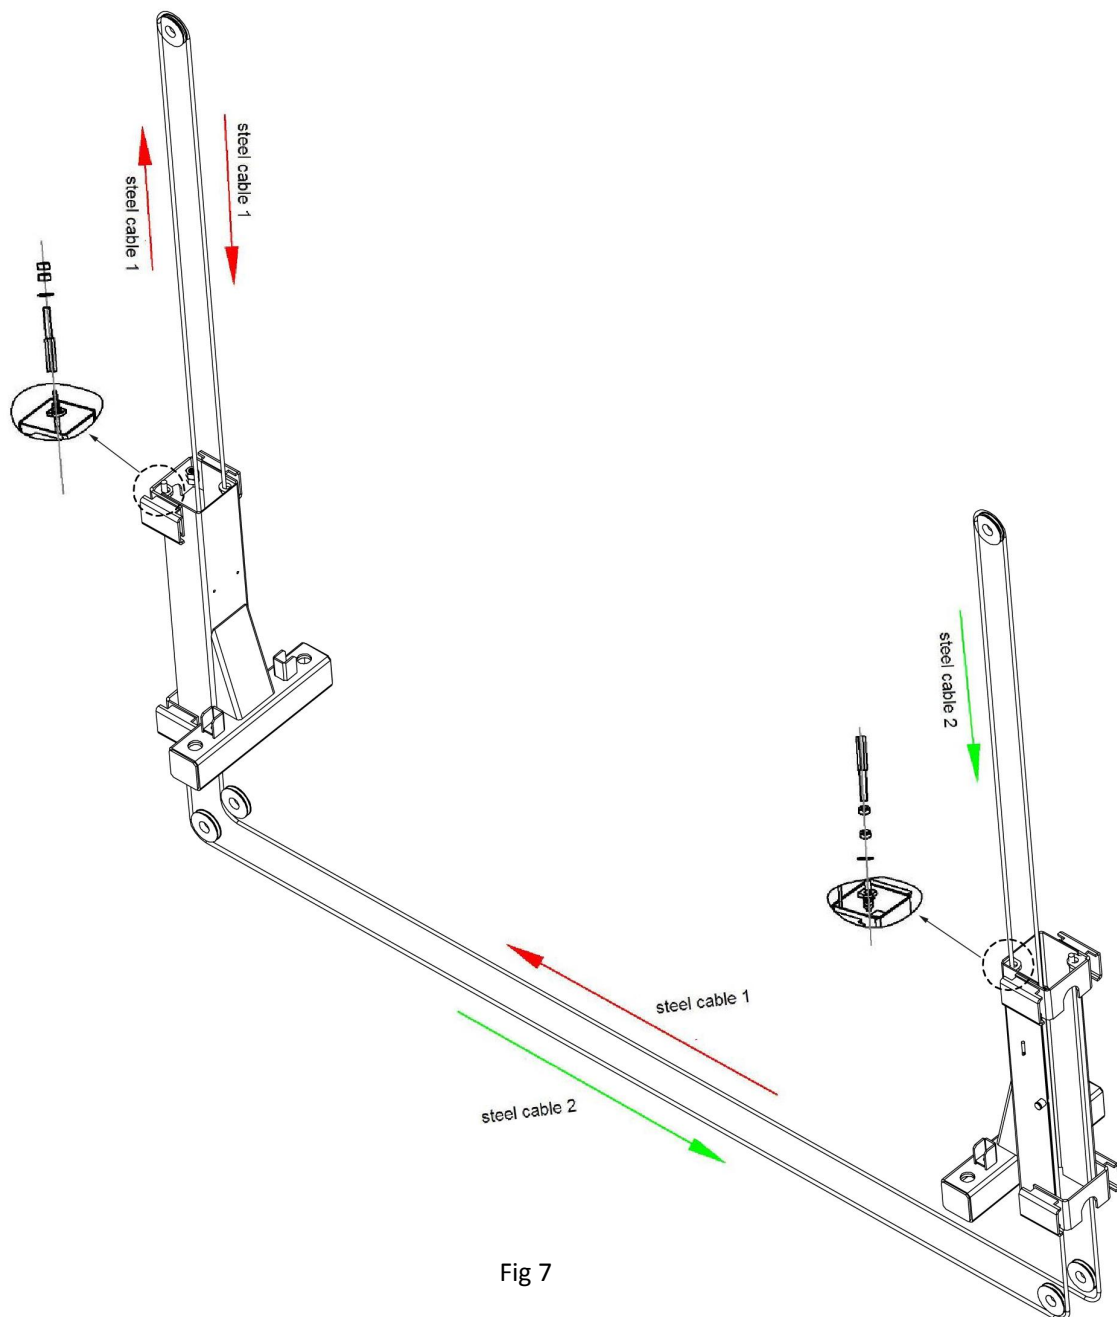

Fig 7
Step6: Connect steel cables. (Fig 7)